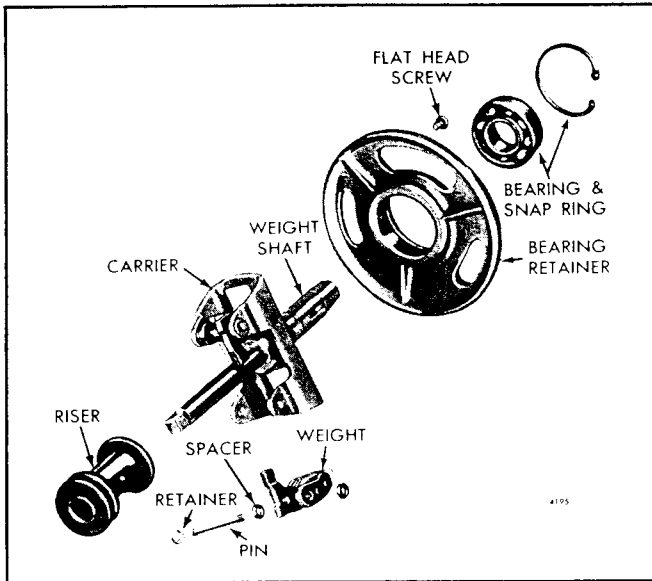

Fig. 7 - Governor Weight Details and Relative Location of Parts
2. Remove the small flat head screw (Fig. 7) which holds the bearing retainer in place.
1. Press the bearing retainer (Fig. 7) from the weight shaft.
2. Press the bearing (Fig. 7) in the retainer (press on the outer race). Then install the snap ring, with the flat side of the ring facing the bearing.